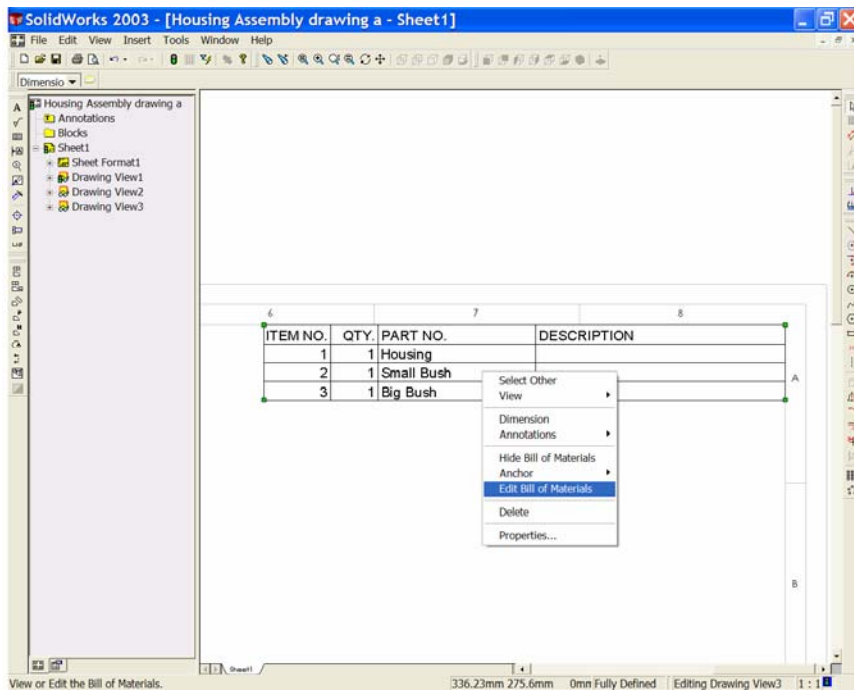

Figure 9
- Use the 'Zoom to Area' tool  and zoom to enlarge the Bill of Materials. Right click in the bill of materials and choose 'Edit Bill of Materials'. When the Bill of materials is active, it is displayed with a shaded border, with row and column headers and the **Excel** toolbars replace the **SolidWorks** toolbars. See Figures 9 & 10.